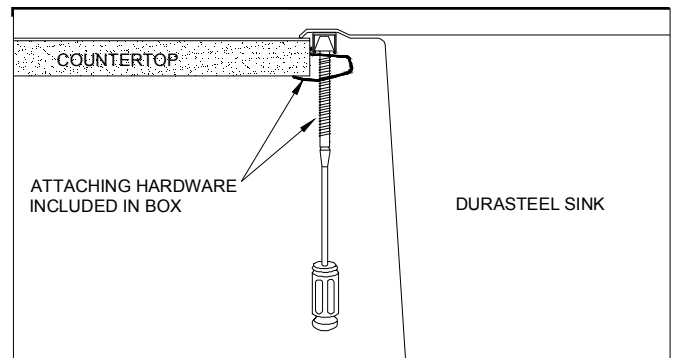

Figure 31C
- Tighten all clamps, working from the center out, an additional quarter turn with the slotted screwdriver. (FIG. 31C)